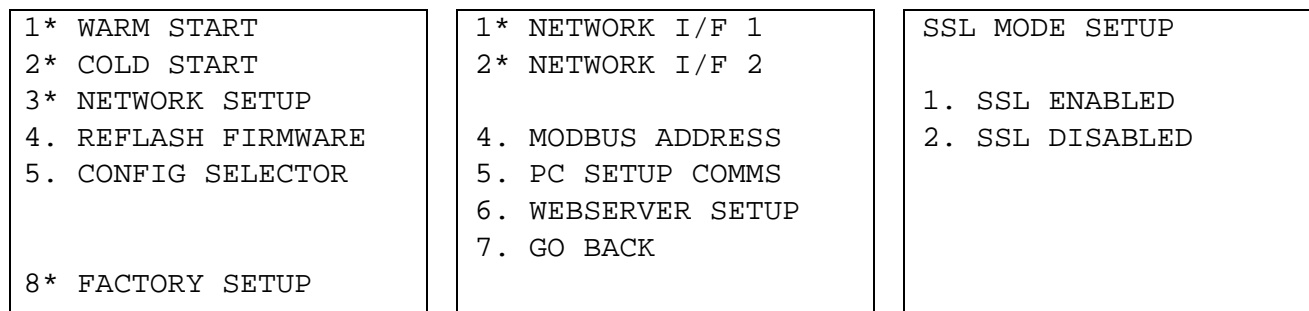

Figure 5-20. Selecting a Configuration Menu
1. Access the Cold Start menu and select **Network Setup**. The S600+ displays the Network Setup menu . Select Webserver Setup. The S600+ displays the SSL Mode Setup menu (shown in *Figure 5-20*).